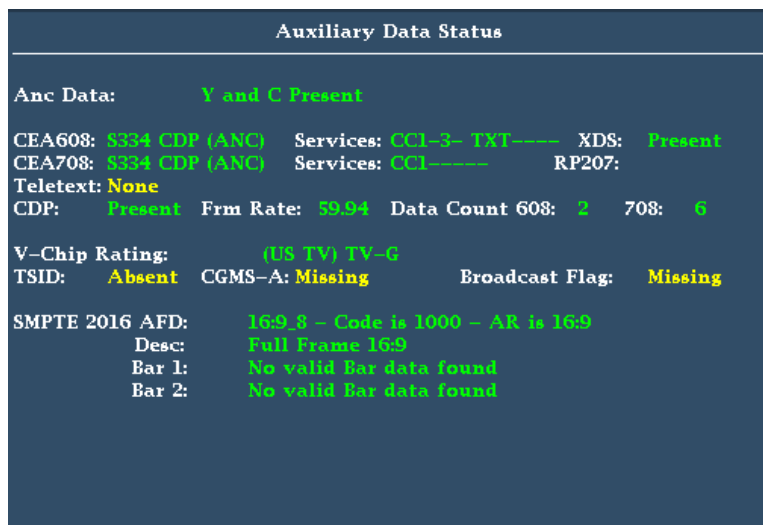

Figure 62: Auxiliary Data Status display
4. Select **Aux Data Status**. The Auxiliary Data Status display shows the status of the closed caption data. (See Figure 62.)
View the graticules in the Picture display. AFD information can viewed in the Auxiliary Data Status display. (See Figure 62 on page 133.)